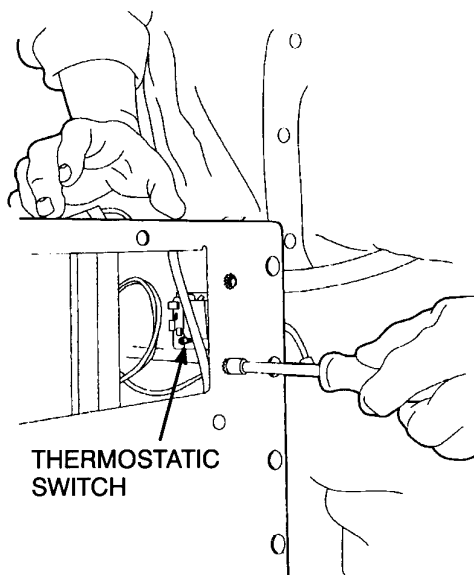

Figure 21 Thermostatic Switch Mounting
4. Remove the two screws that secure the switch to the side of the Blend-Air unit (Figure 21).
2. Position the switch against the side of the Blend-Air unit, and install and tighten the mounting screws (Figure 21).